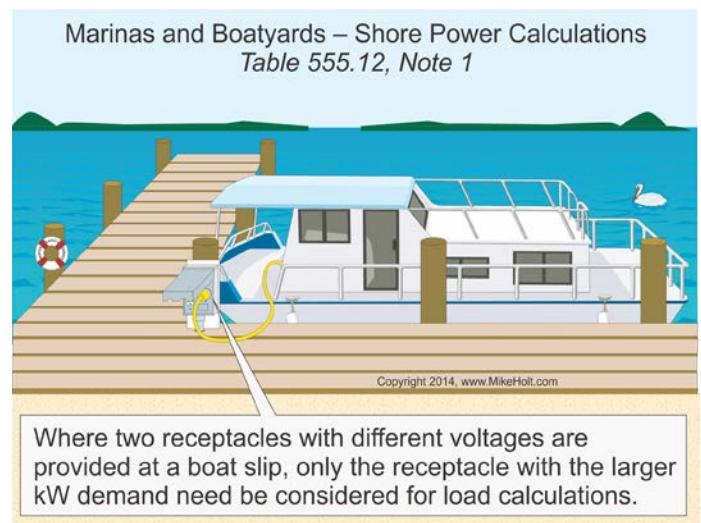

Figure 555-11
**Table Note 1.** If shore power provides two receptacles having different voltages for an individual boat slip, only the receptacle with the larger kilowatt demand rating is required to be included in the calculation. Figure 555-11